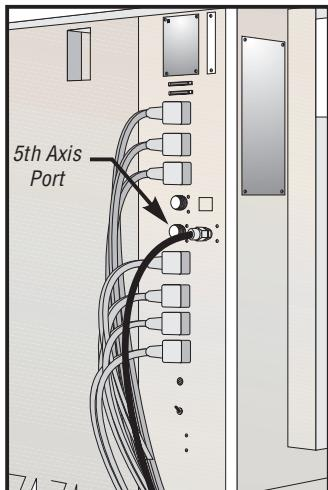

Figure 2.2 Fifth Axis port on the side of the VMC control cabinet
2. **Important!** Before installing the APC, ensure the VMC has been installed and leveled. Also make sure the APC jumper is installed in the "5th Axis" port on the side of the VMC control cabinet (see Figure 2.2).
21. Remove the jumper from the Fifth Axis (B) port on the side of the VMC control cabinet (see Figure 2.2), and insert the APC amphenol connector into this port. Tie-wrap the cable to the door switch cable and the air hoses at the rear of the VMC.